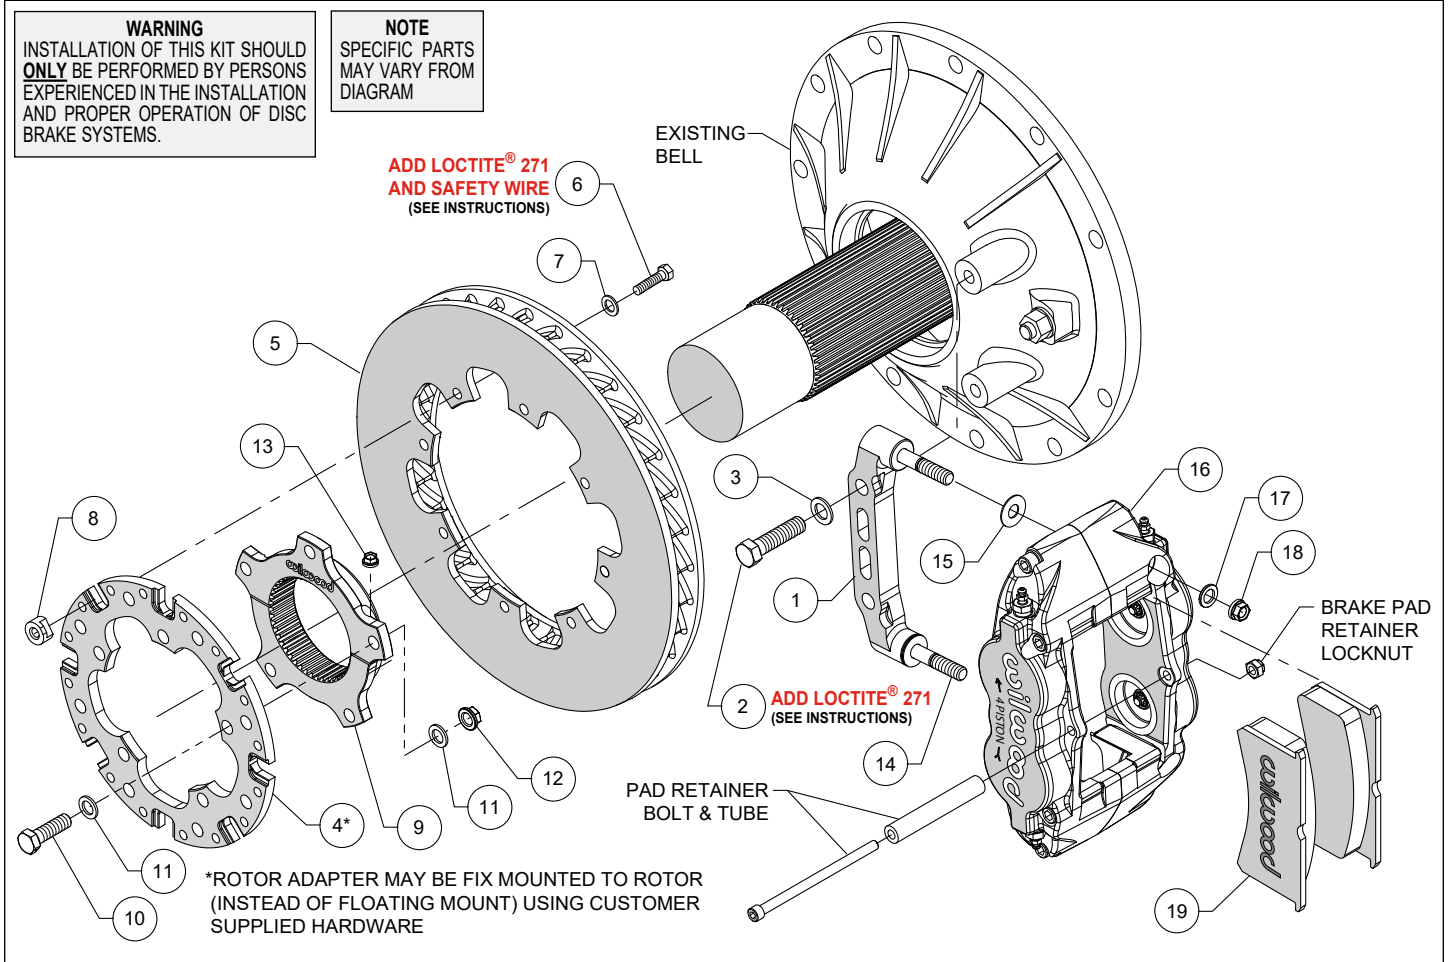

Figure 1. Typical Installation Configuration
**NOTE:** Numbers in parenthesis refer to the parts list and Figure 1 on the preceding pages.
•Orient the caliper mount bracket (1) as shown in Figure 1 and install using bolts (2) and washers (3). Temporarily tighten the mounting bolts. **NOTE:** The bracket must fit squarely against the mount bosses on the bell. Inspect for interference from casting irregularities, machining ridges, burrs, etc. Remove the bracket mounting bolts one at a time, apply red *Loctite*® 271 to the threads, and torque to 60 ft-lb.
•Orient the rotor adapter (4) and the rotor (5), as shown in Figure 1, and attach using bolts (6), washers (7), and t-nuts (8), Figure 1. Apply red *Loctite*® 271 to the bolt threads before installing. Finger
- Orient the axle clamp assembly (9) as shown in Figure 1 and install onto the rotor adapter (4) using bolts (10), washers (11), and lock nuts (12). Tighten lock nuts part way while still allowing clamp-to-rotor movement. The lock nuts will be final tightened later, after aligning the rotor. **NOTE:** *The axle clamp should be positioned inside of the rotor as shown in Figure 1, not offset, or outside of the rotor adapter.*
- Initially place one .035" thick shim (15) on each stud (14) as shown in Figure 1. Mount the caliper (16) onto the bracket (1) using washers (17) and lock nuts (18), Figure 1. Temporarily tighten the lock nuts (18) and view the rotor through the top opening of the caliper. The rotor should be centered in the caliper. If not, slide the rotor/adaptor assembly on the axle until the rotor is centered in the caliper. Tighten the clamp lock nuts (13) first, Figure 1, locking the clamp to the axle. Torque rotor adapter lock nuts (12) to value shown in Figure 1.
- Remove the caliper brake pad retainer bolt, tube, and locknut from the caliper. Insert the brake pads (19) into the caliper, with the friction material facing the rotor. Check that the top of the brake pad is flush with the outside diameter of the rotor. If not, adjust by adding or subtracting shims (15) between the caliper and the bracket. After the caliper pad height is set, torque the caliper locknuts (18) to 30 ft-lb. Secure the brake pads in place with the brake pad retainer tube, bolt, and locknut, Figure 1. The locknut should be snug without play in the bolt or tube. Be cautious not to over tighten.